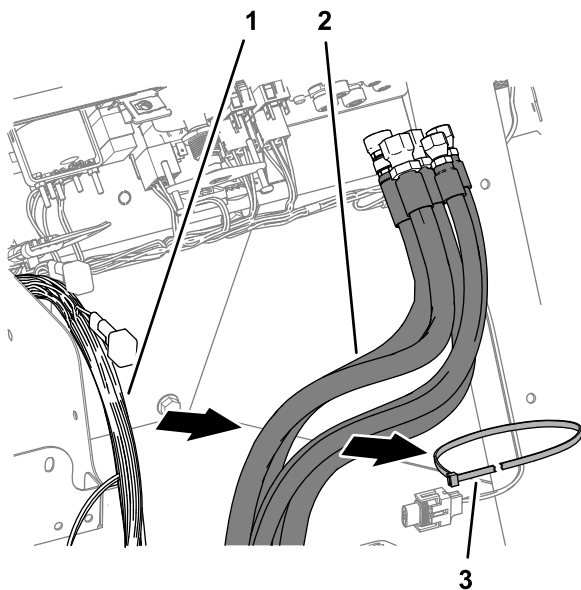

**Figure 47**
- Disconnect the 5 steering hoses from the fitting of the steering valve (Figure 47).